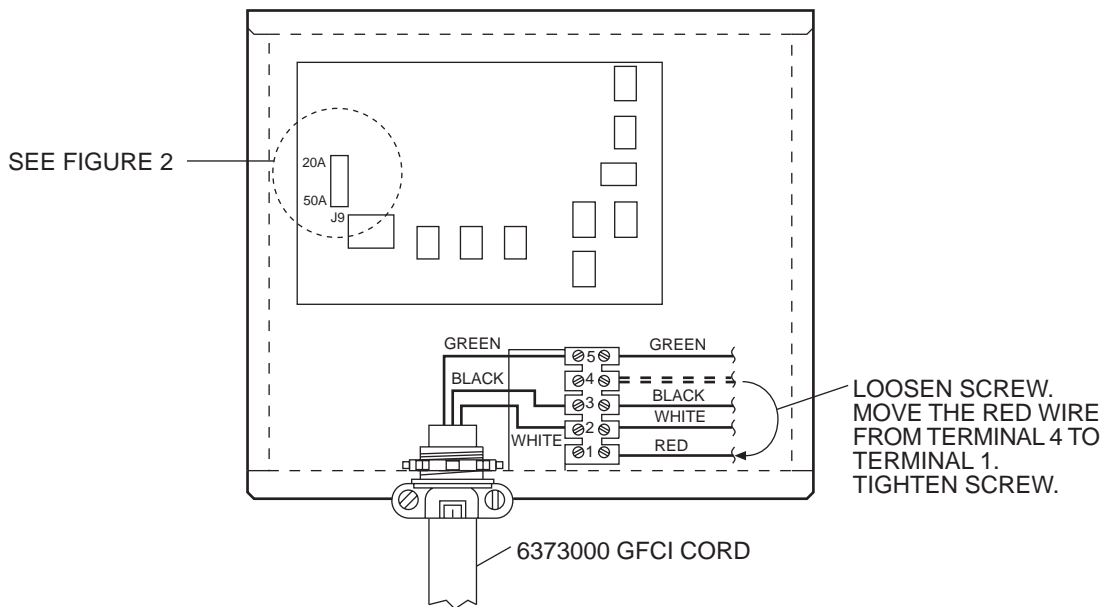

FIGURE 1
5. Insert the wires into the left hand side of the wiring block and tighten the screws. Refer to Figure 1.
6. On the right hand side of the wiring block, move the red wire from position 4 to position 1. Refer to Figure 1.
7. Move the jumper at circuit board location J9 from the 50A position to the 20A position. Refer to Figures 1 and 2.